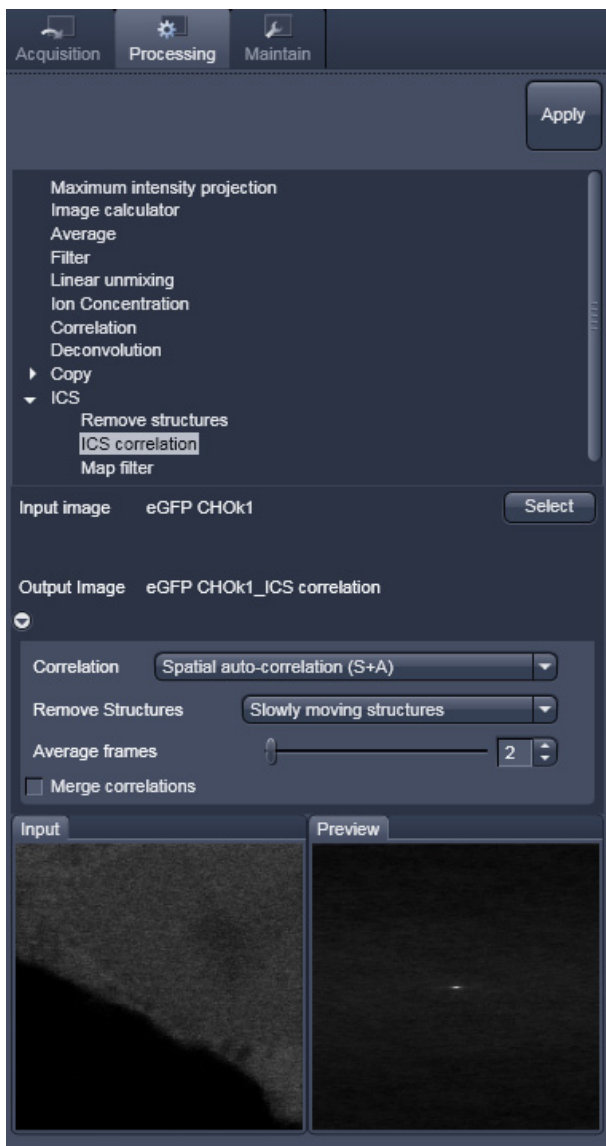

Fig. 5-82 ICS correlation menu
- Activate **ICS correlation** in the **ICS** tool. The **ICS correlation** menu will appear (Fig. 5-82).